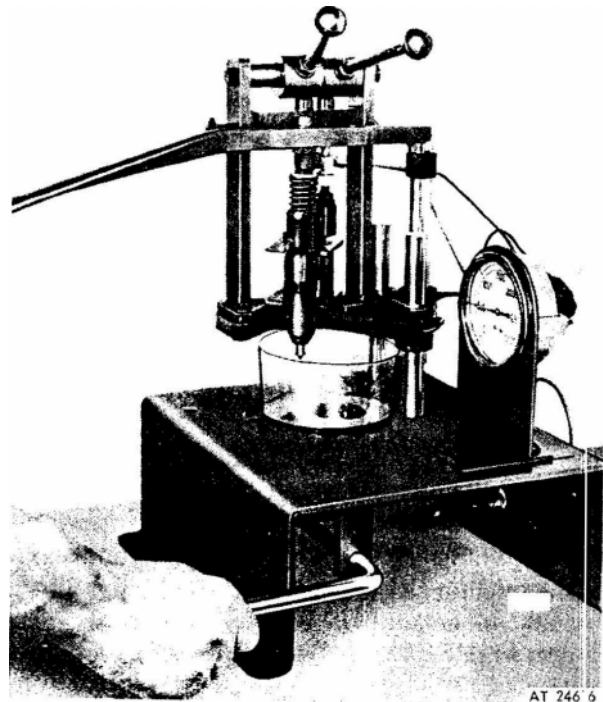

Figure 8. Injector high pressure test.
4. With the injector rack in the FULL-FUEL position and the injector tester handle locked in position by means of the handle lock (see fig. 8), operate the pump handle to build up and maintain the pressure. Use the adjusting screw in the injector tester handle to depress the injector plunger just far enough to close both ports in the injector bushing. The point at which both ports are closed may be easily ascertained by the fact that the injector spray will decrease appreciably and a rise *in* pressure will occur. At this time, the condition of the plunger and bushing may be established. If there is excessive clearance between the plunger and bushing, pressure beyond the normal valve opening pressure cannot be obtained. Replacement of the plunger and bushing assembly is then required. Pump up the injector tester J 9787 (fig. 8) and maintain a pressure of 1600 to 2000 psi by actuating the pump handle. Then, inspect for leaks at the injector filter cap gaskets, body plugs and injector nut seal ring.